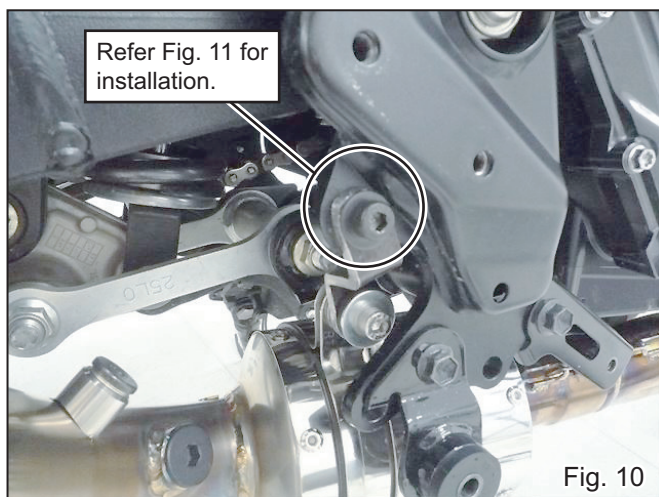

Fig. 10
- 10) Then, mount Tailpipe Bracket to OEM Exhaust Bracket on the right side of the vehicle with Cap Bolt M8x20 (Black) and Washer M8x20 (Black) (See Fig. 10 & 11 on next page). Tighten nut only by hand at this stage.